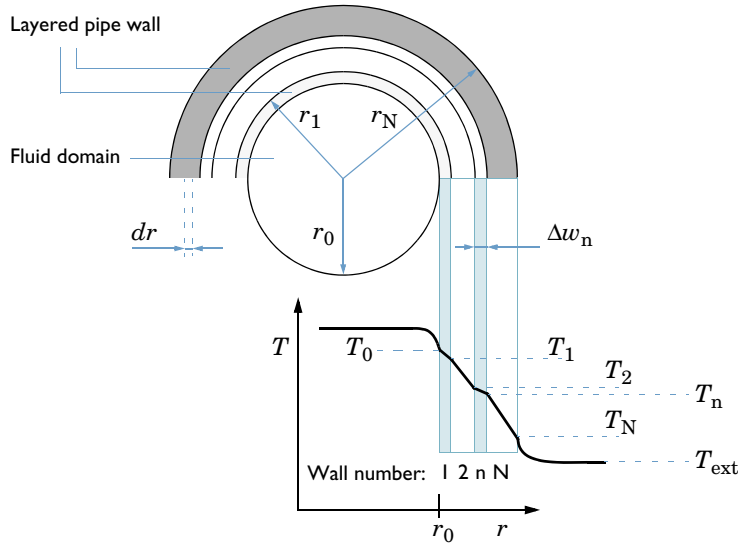

Figure 3-5: Temperature distribution across the pipe wall.
In Equation 3-3,  $(hZ)_{\text{eff}}$  is an effective value of the heat transfer coefficient  $h$  (SI unit:  $\text{W}/(\text{m}^2 \cdot \text{K})$ ) times the wall perimeter  $Z$  (SI unit: m) of the pipe.  $T_{\text{ext}}$  (SI unit: K) the external temperature outside of the pipe. See Figure 3-5.  $Q_{\text{wall}}$  appears as a source term in the pipe heat transfer equation, Equation 3-1.
The overall heat transfer coefficient including internal film resistance, wall resistance and external film resistance can be deduced as follows, with reference to Figure 3-5.
**Shell balance** In Figure 3-5, consider a short length section  $\Delta L$  of pipe, perpendicular to the figure plane. The heat leaving the internal fluid of that segment into the wall is
The local temperatures in each radial position of the pipe wall (see Figure 3-5) are computed considering the fact that Equation 3-3 also can be applied for each individual wall layer: